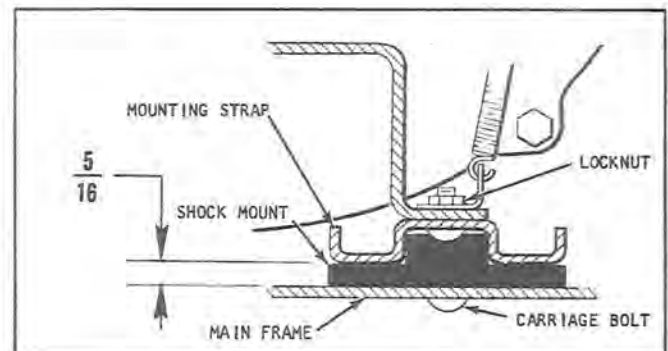

Figure 12
- Remove the locknuts and washers securing the engine and engine mounting straps to the main frame. During reassembly, tighten the locknuts sufficiently to allow a 5/16-inch clearance as shown in figure 12.